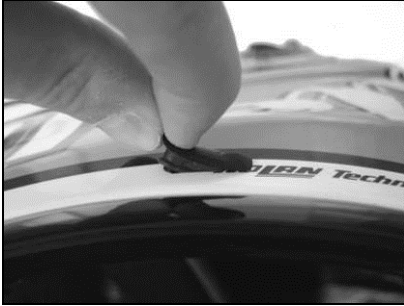

Fig. 27
- Remove the N-Com plug from the left side of the helmet; to make this easier, it is recommended to push the plug from the inside of the helmet. (Fig. 27)